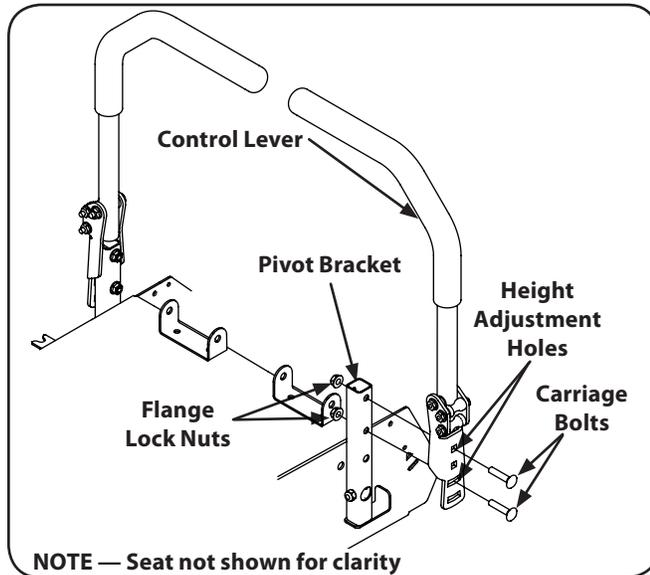

Figure 6-5
1. Remove the nuts from the control lever mounting bolts. See Fig. 6-5.